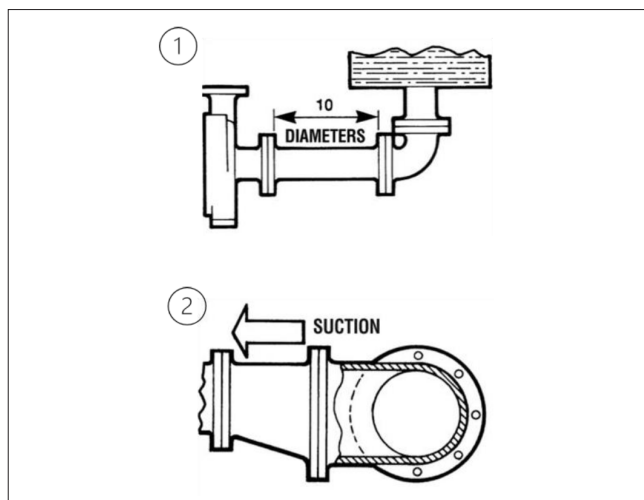

Figure 12: Suction piping
Figure 12 (1) illustrates the ideal piping configuration with a minimum of 10 pipe diameters between the source and the pump suction. In most cases, horizontal reducers shall be eccentric and mounted with the flat side up as shown in Figure 12 (2) with a maximum of one pipe size reduction.